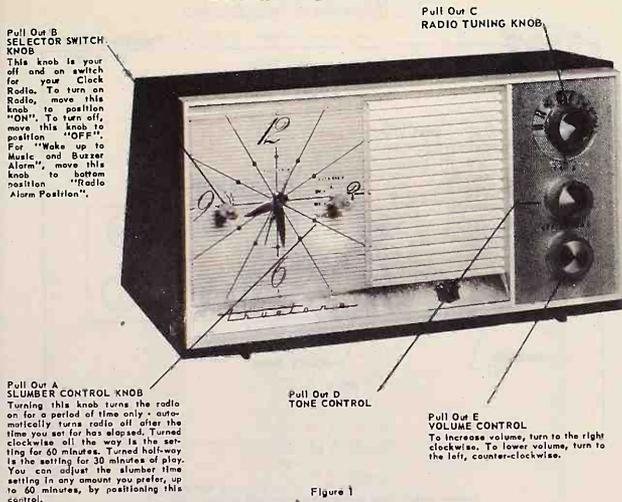

Figure 1
To turn off the radio, turn the "Selector Switch Knob" to the "OFF" position. See Figure 1.
Turn the "Slumber Control Knob" to the desired play time, up to 60 minutes, as shown in Figure 1. If you wish to turn the radio off before end of setting turn "Slumber Control Knob" counter clockwise.
3. With Buzzer Alarm move "Selector Switch Knob" (see Figure 1) to right, or clockwise "Radio Alarm" position. The Buzzer will come on ten minutes after the radio has been turned on automatically.
The center knob (see figure 1) is the Tone Control. To increase bass response, rotate this control counter clockwise, or to the left. To increase treble response, rotate this control clockwise, or to the right.